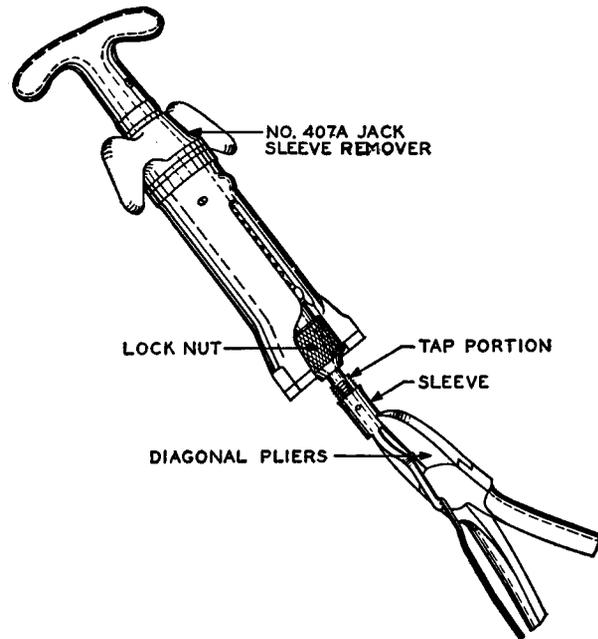

Fig. 11—Method of Removing Sleeve from No. 407A Sleeve Remover
3.21 To remove the sleeve from the tap portion of the No. 407A sleeve remover, back off the locknut and remove the sleeve by grasping it firmly with the diagonal pliers as shown in Fig. 11. Turn the tap in a counterclockwise direction until the sleeve has been removed.